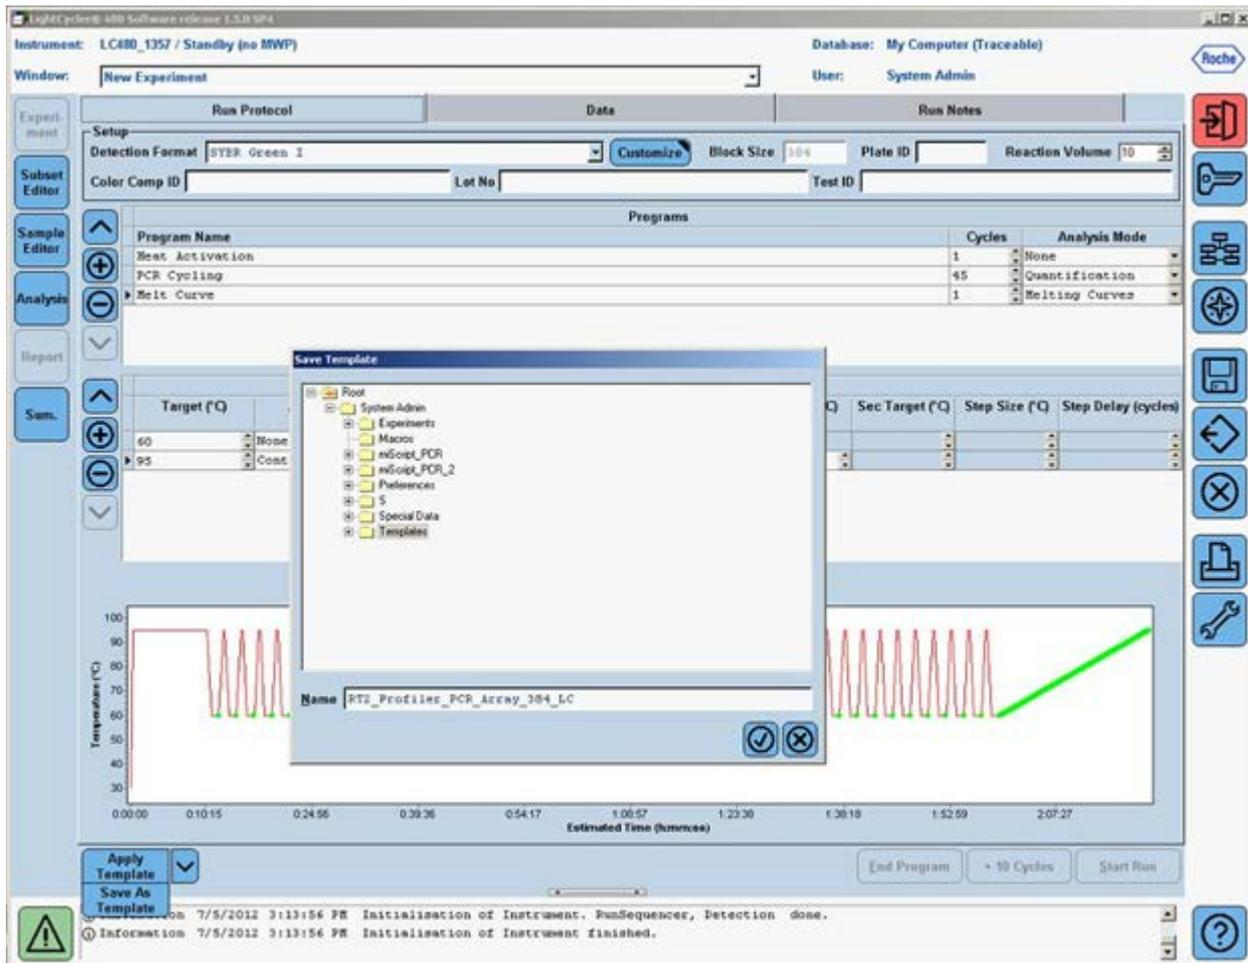

Figure 7. Saving the "Run Template" file.
11. Click the down arrow button (▼) right next to the “Apply Template” button on the lower left corner of the screen; select the “Save As Template” button (Figure 7) to save the run template under the filename “EpiTect_Methyl_II_PCR_Array_384_LC” if using the 384-well format or “EpiTect_Methyl_II_PCR_Array_96_LC” if using the 96-well format.
1. In the "Navigator" window (Figure 7), find and open the run file to be analyzed.